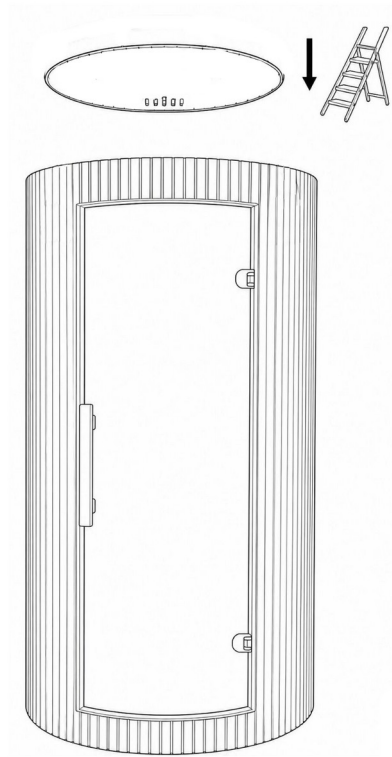

Figure 18. Dust Cover lowered onto the Ceiling Panel over the connections.
- With the Function Test passed and the power cord unplugged, position the Dust Cover over the connections on the Ceiling Panel as shown in Figure 18.
- Using the power drill with the Phillips bit or the Phillips screwdriver, secure the Dust Cover with the (8) black 3 × 16 mm screws. Drive each screw until the head seats; do not over-tighten, which strips the thin cover.